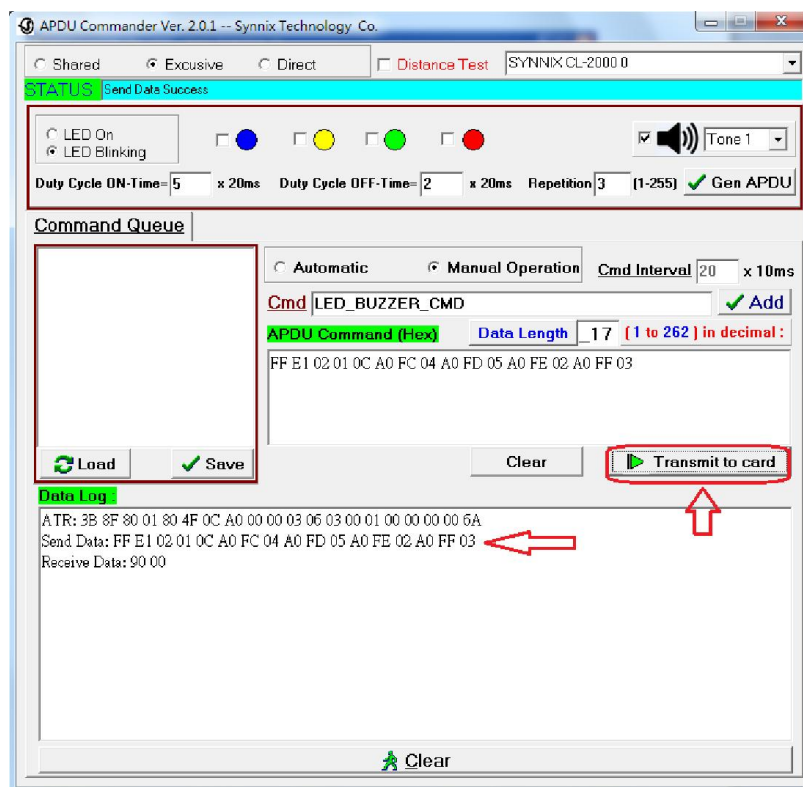

Figure 7
9. Click on “Transmit to card” button. See Figure 7.